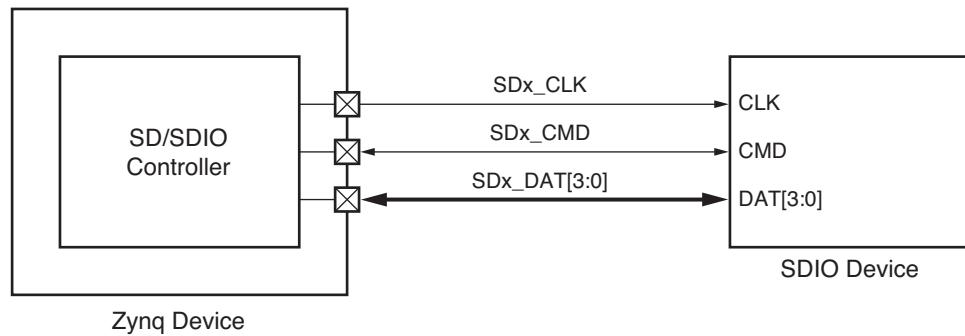

Figure 13-7: SDIO Controller Device Wiring Diagram
6. Check the Software Reset for DAT Line and Software Reset for CMD Line in the Software Reset register. If both Software Reset for DAT Line and Software Reset for CMD Line are 0, go to “END”. If either the Software Reset for DAT Line or the Software Reset for CMD Line is 1, repeat Step (6).
Zynq-7000 devices provide two secure digital (SD) ports that support SD and SDIO devices (see Figure 13-7).